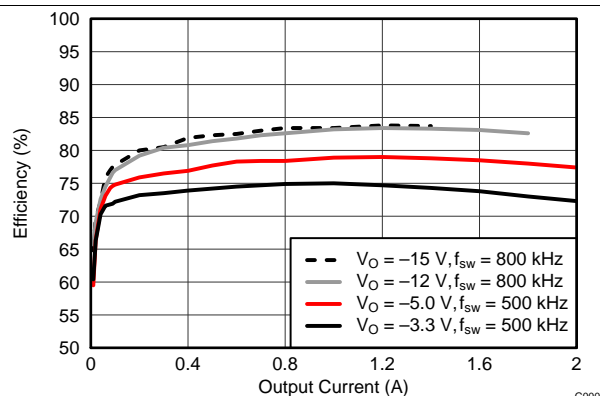
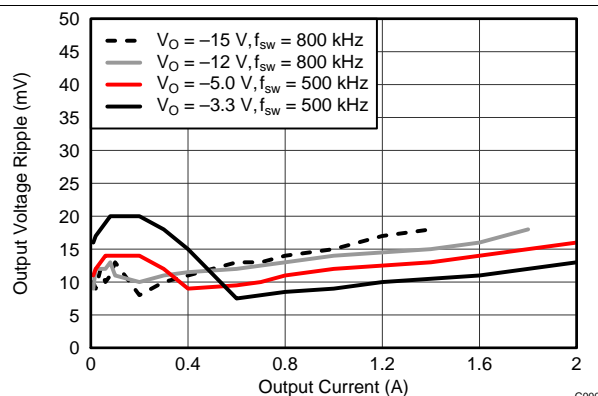
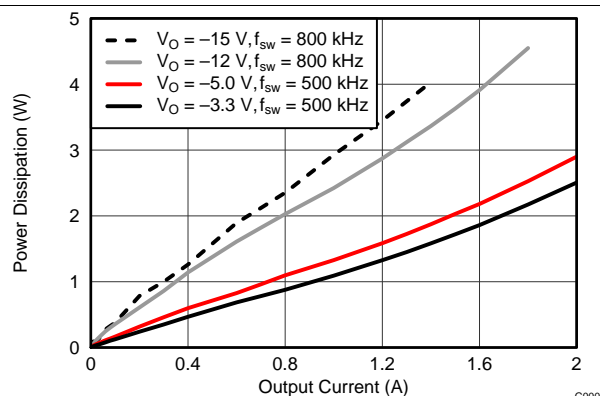

Figure 19. Efficiency vs. Output Current
Figure 20. Voltage Ripple vs. Output Current
Figure 21. Power Dissipation vs. Output Current
- (1) The electrical characteristic data has been developed from actual products tested at 25°C. This data is considered typical for the converter. Applies to Figure 19, Figure 20, and Figure 21.
- (2) At light load the output voltage ripple may increase due to pulse skipping. See Light-Load Behavior for more information. Applies to Figure 20.